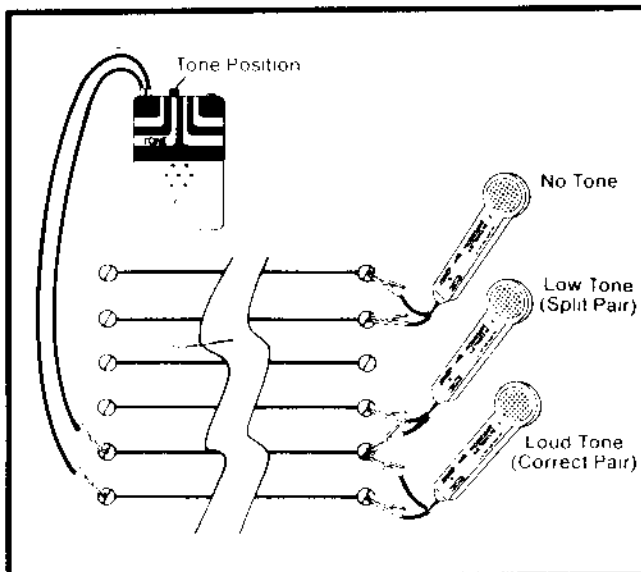

Figure 3 "Toning" a Pair
- (b) After the pair has been "cleared," place the slide switch in the "Tone" position and connect the test leads as shown in Figure 3.
- (c) Figure 3 also illustrates the indications that can be expected. A pair with an "open" conductor will produce a low tone similar to a "split" pair.